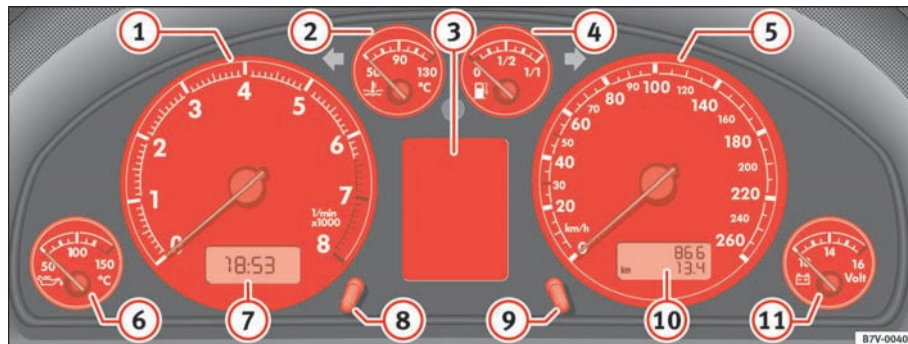

Fig. 44 Detail of the dash panel: Instruments
If, for example, the needle is directly over the 2, this corresponds to an engine speed of 2000 rpm (revolutions per minute) ⇒ page 62, fig. 44 ①.
- Turn the setting knob ⇒ **page 62, fig. 44 ⑧** briefly in an anti-clockwise direction to move the hour forward by one hour or
The top counter of the mileage display ⇒ **page 62, fig. 44 ⑩** registers the total mileage covered by the vehicle.
The lower counter registers the short journeys. The last digit indicates steps of 100 metres. The trip recorder counter may be reset by the reset button ⇒ **page 62, fig. 44 ⑨**. ■
The voltmeter ⇒ **page 62, fig. 44 ⑪** indicates the voltage of the vehicle electrical system. The voltage of the electrical system should normally be
The service display is shown either on the mileage display ⇒ page 62, fig. 44 (10) or in the display ⁷⁾ in the combi-instrument ⇒ page 62, fig. 44 (3).